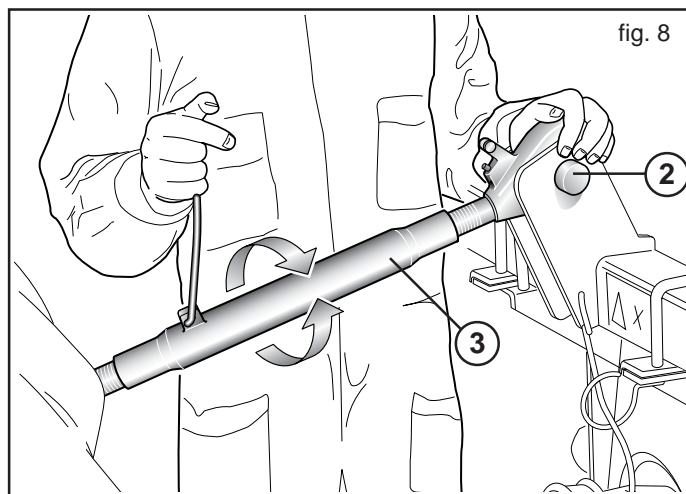
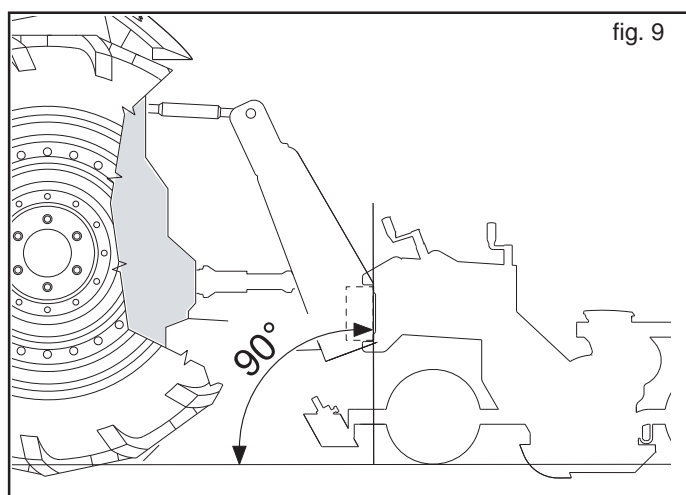

fig. 8
fig. 9
- 2) Connect the third upper point (2, Fig. 8); the pin will be blocked with the appropriate split pin; use the adjusting tierod (3, Fig. 8) to keep the seeder perpendicular to the ground (Fig. 9).